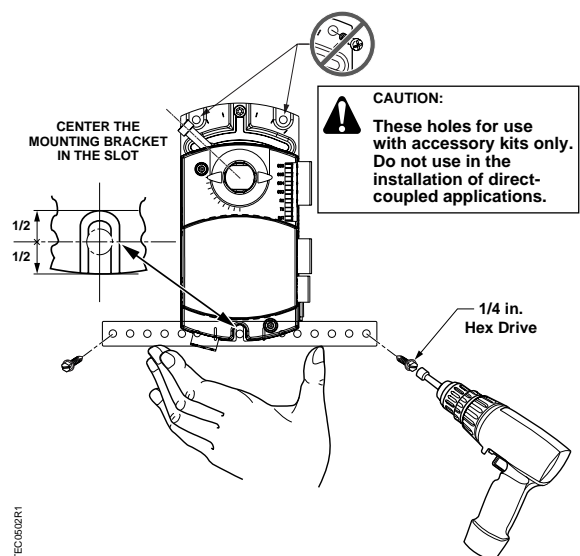

**Figure 9. Position indicator and adjustment lever.**
7. Install the position indicator, Figure 9.